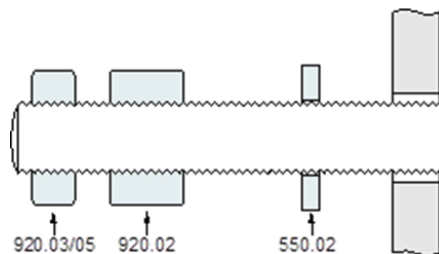
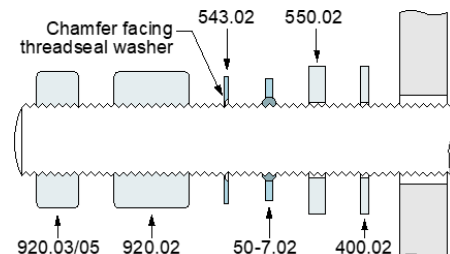

Figure 10-15: Representative Fastener Orientation (With Wear Ring)
Figure 10-16: Representative Fastener Orientation (Without Wear Ring)
4. Lay plate 16-1 onto the liner, ensuring that the rabbet fit is aligned. Install the wear ring (512), if present, with the O-rings (412.01/02) and supporting hardware (914.06 and 550.06), ensuring that the wear ring is fully seated and flush with the suction plate sealing surface (Figure 10-15). Install and then tighten the washers, gaskets, and nuts (550.02, 920.02, 920.03/05 in Figures 10-15 and 10-16; 400.02, 50-7.02, 543.02 in Figure 10-16 only) to the studs using a crosswise torque technique.